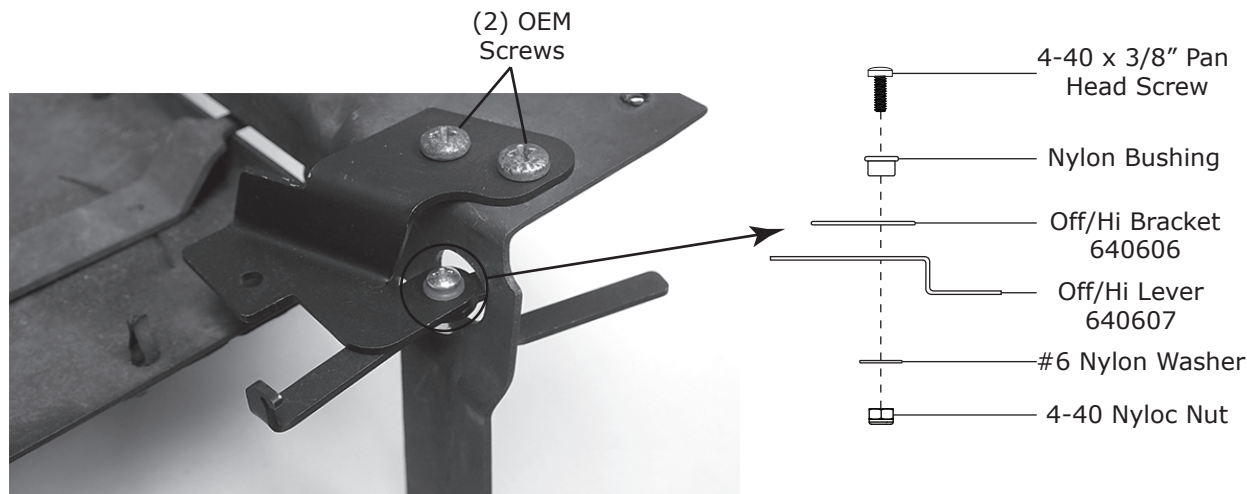

Figure 8
1. Install Off/Hi lever onto Off/Hi bracket as shown in Figure 8, below.
2. Install Off/Hi bracket onto OEM control panel using OEM screws as shown in Figure 8, below.